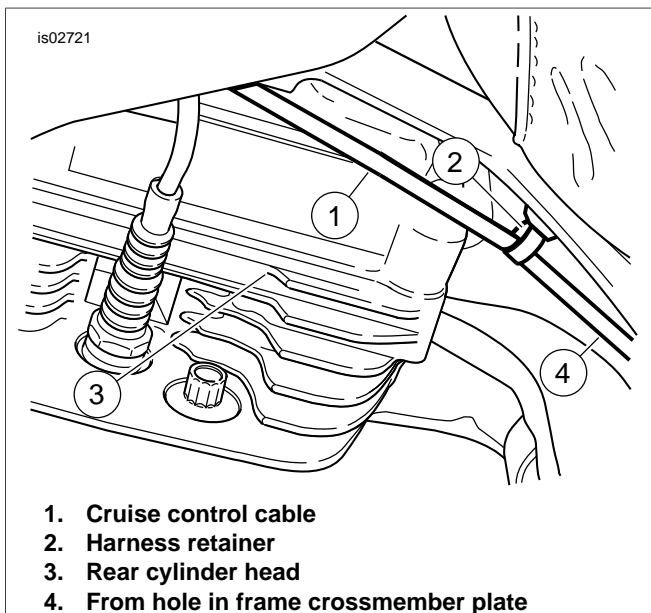

Figure 2. Routing Cruise Cable from Cruise Control Module to Carburetor or Induction module (left side view)
6. See Figure 2. While holding cruise control module in place near its mounting location, feed the cruise control cable through the hole in frame crossmember plate and route under rear spark plug wire staying on inner side of fuel line components. Carefully curve cable toward the right and continue routing up under the fuel tank and over the top of the engine stabilizer bracket, then down between cylinder heads. Leave in place temporarily. See Figure 10. Obtain a harness retainer (4) from kit and secure the cruise cable to crossmember plate with barb as shown in Figure 2. On California models, remove the EVAP hose from cable clip and secure hose with one of the cable ties (6).